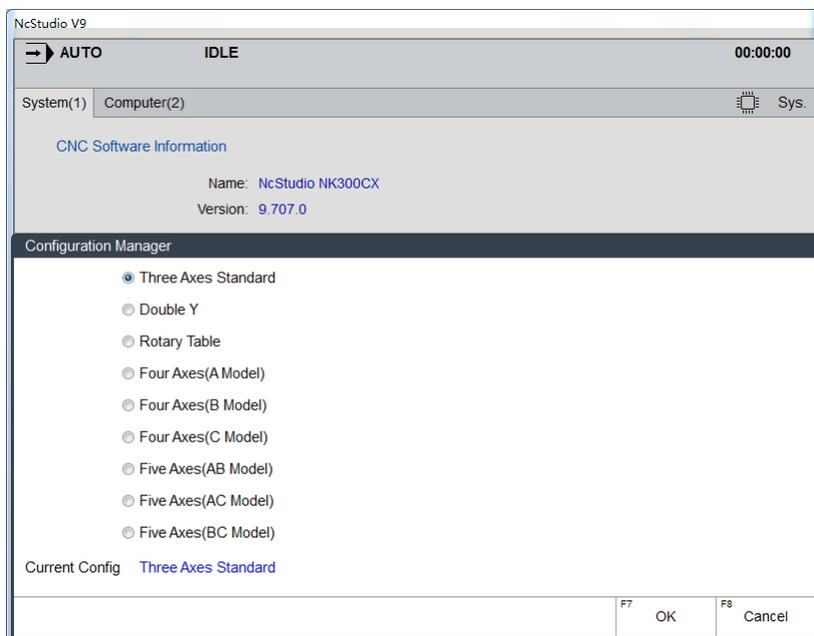

Fig. 3-79 Dialog Box [Configuration Manager]
(1)] , the prompt box popping up is about manufacturer access detection. You can verify your access by entering your manufacturer password. Once your access is verified, dialog box [Configuration Manager] will pop up. You can select the configuration in the box according to your needs. The current configuration is shown in blue at the bottom of the box. See Fig. 3-79.